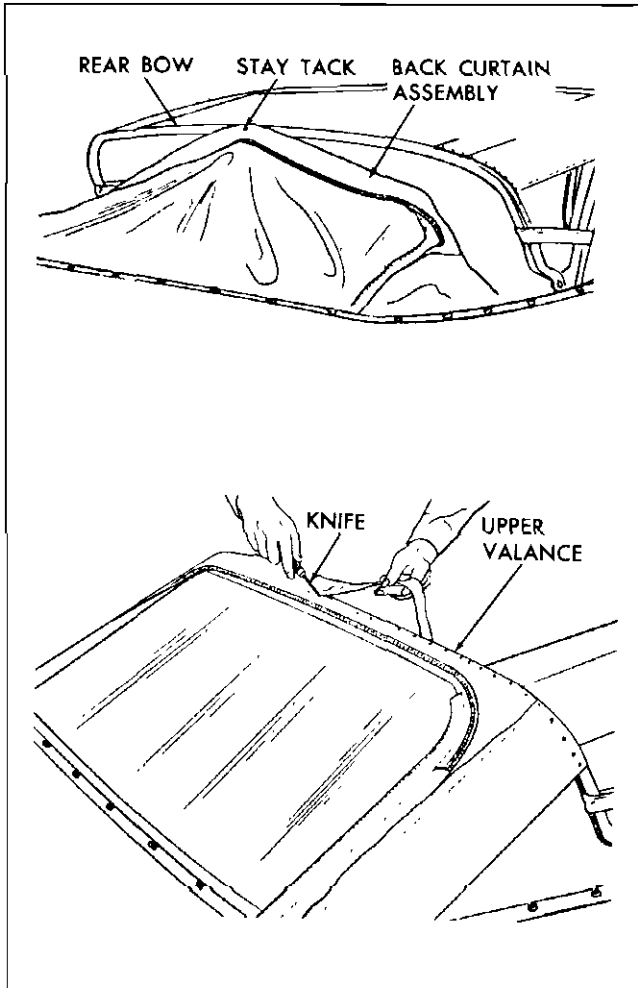

Fig 7-41 Securing and Trimming Back Curtain
16. Secure back curtain assembly with one tack to rear bow to prevent damage to plastic sheet (Fig. 7-41).
board to right and left sides, tack back curtain upper valance and upper ends of integral stay pads to rear bow. Make sure all fullness has been drawn from curtain before trimming off excess at rear bow (Fig. 7-41).